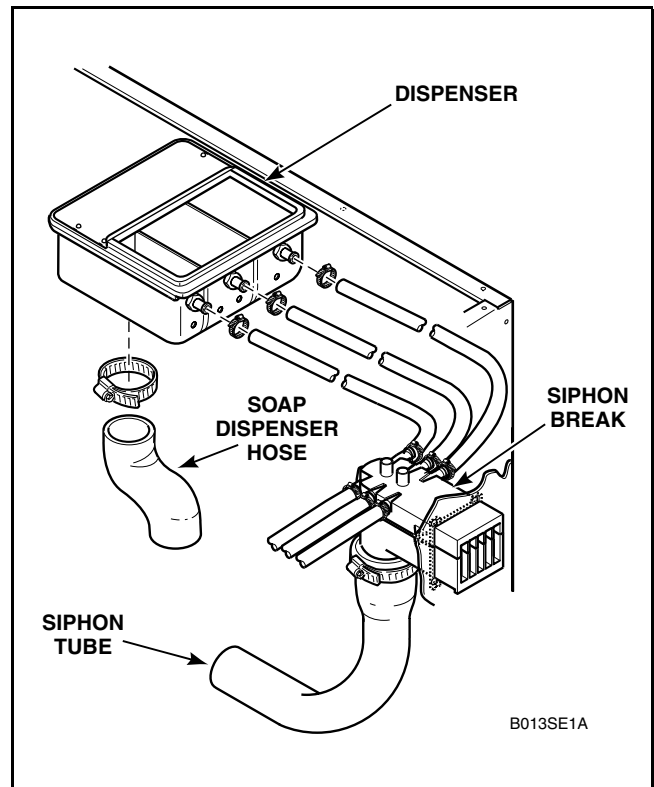

Figure 14
- Loosen hose clamps attaching hoses to dispenser, refer to *Figure 14*.